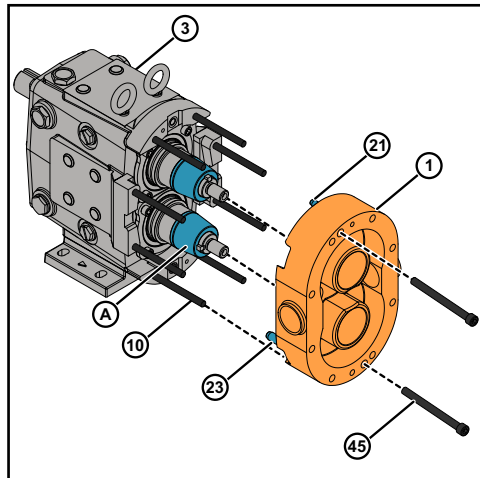

Figure 90 - Install pump body
1. Install the installation guide (A) on both shafts to avoid damaging the lip seals as the pump body is drawn over the shafts. Ensure the front face of installation guide is attached to the back face of sleeve, as shown in Figure 90. See the installation guide part numbers Table on page 121.
2. Match the large and small dowel pin (21 & 23) sizes on the pump body (1) with the dowel pin holes in the pump gear case (3).
3. Install the pump body (1) to the gear case assembly (3), aligning the pump body with the body studs (10) and gradually tighten the two cap screw(45).